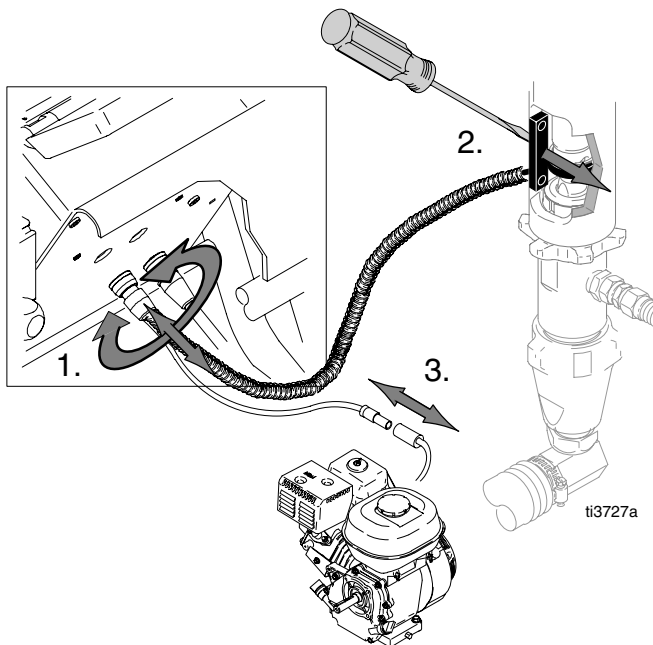

Fig. 9
1. Fig. 9. Disconnect gallon counter cable at back of pressure control and at engine.
4. Fig. 9. Connect gallon counter cable at back of pressure control and at engine.